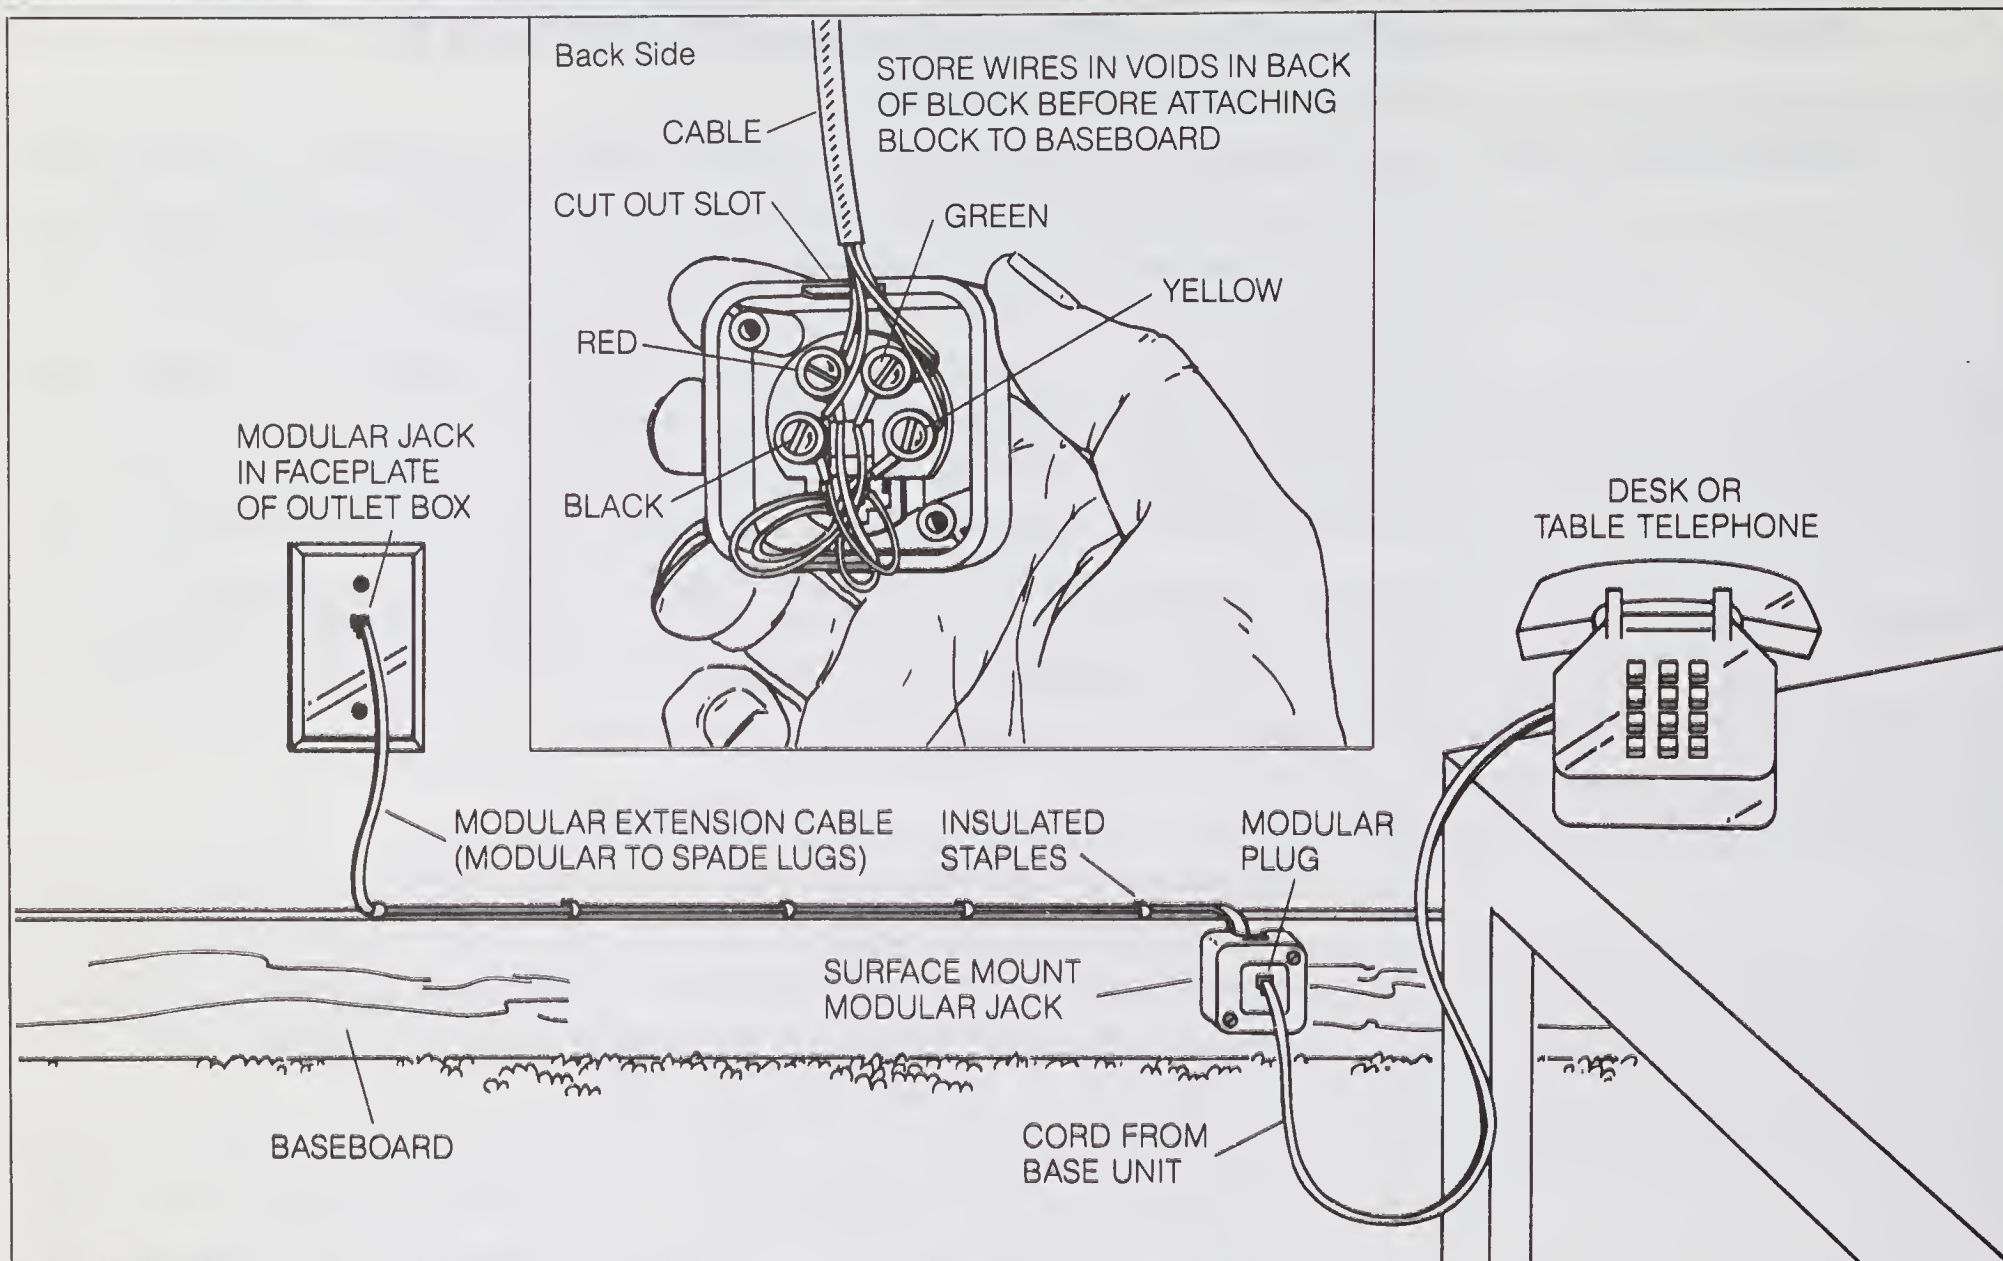
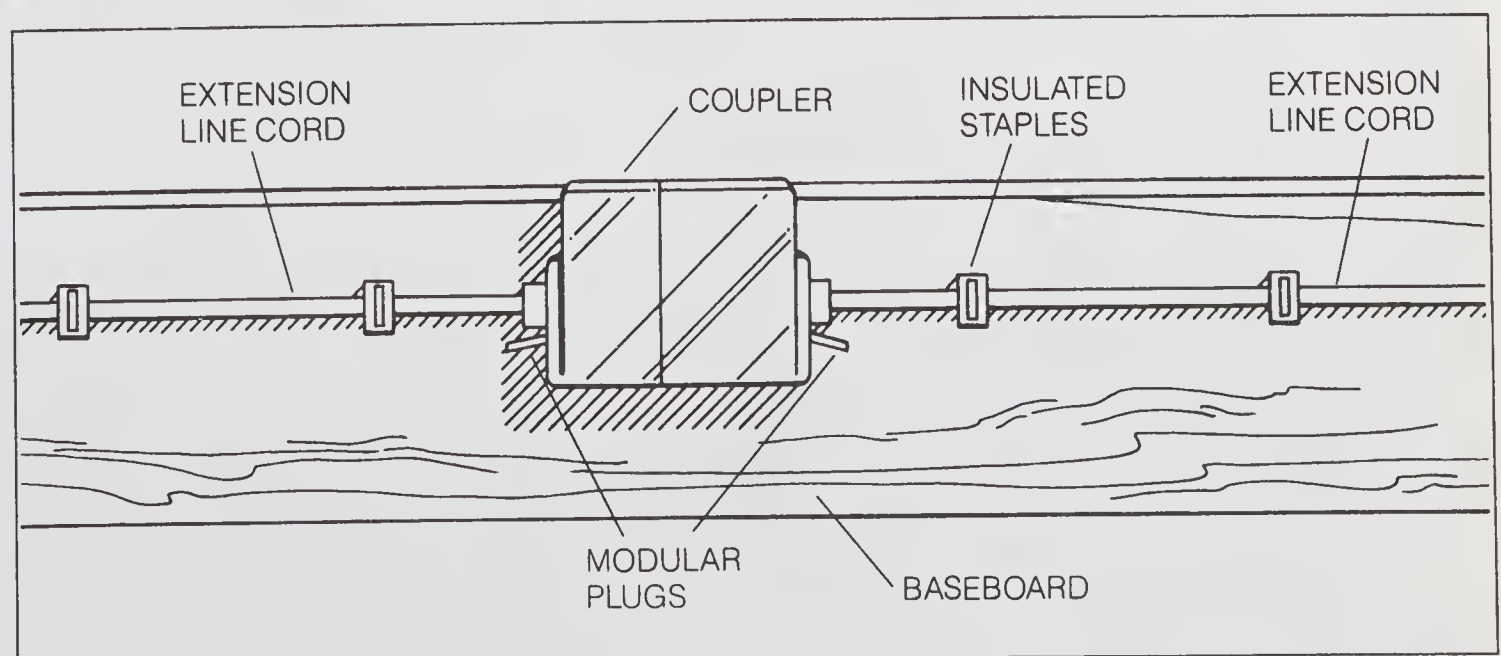

Figure 3-3.
Figure 3-10.
It may be that you do not wish the cord of the desk or table telephone to be loose back to the modular connector. In that case, a modular extension can be run along the baseboard and terminated in a modular jack mounted to the baseboard. The modular plug from the desk or table unit is then plugged in the baseboard modular jack. This installation is shown in *Figure 3-3*. Instructions 4 through 13 apply.
8. Connect the ends of the extension cable, either spade lugs or bare wires, to the screws on the backside of the surface-mounted jack as shown in *Figure 3-3* red to red, green to green, yellow to yellow, black to black.
A longer extension line cord may be desired or required when using an extension line cord for installing baseboard outlets (*Figure 3-3*). If so, the extension line cords can be lengthened by using a line coupler that receives a modular plug from each side (*Figure 3-10*). To install the coupler, plug the modular plug from the end of one of the extension line cords in one side of the coupler. The coupler may be attached to the baseboard with double sided adhesive tape. Plug one end of the second extension line cord in the other side of the coupler. The two extension line cords now are coupled together and can be used as one. If telephones are to be added to this system, refer to Chapter 5 and 6.